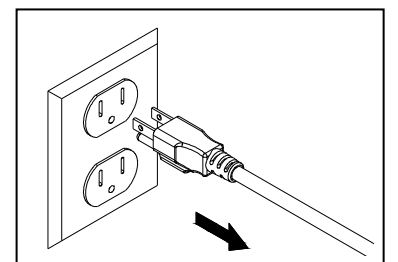

Fig. 7
1. Unplug pump, remove from pond. Fig. 7